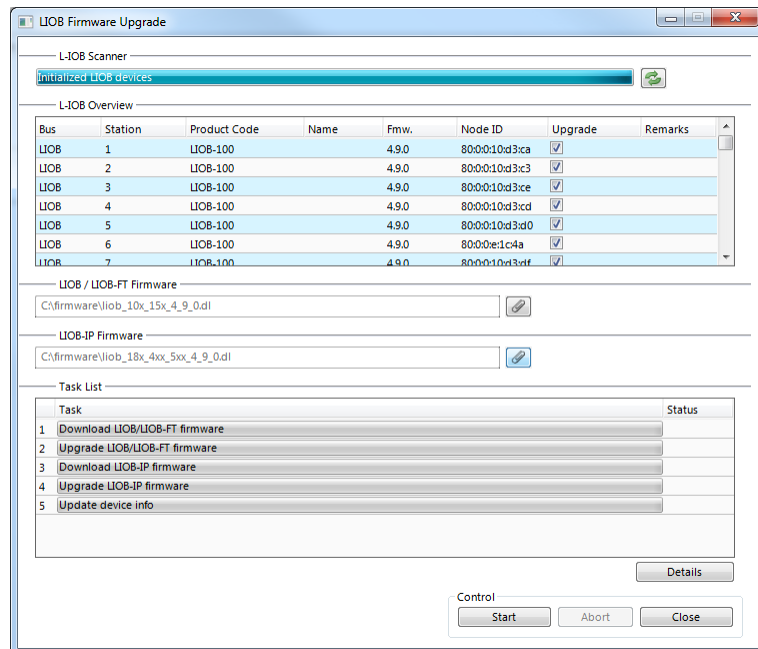

Figure 74: L-IOB Firmware Update dialog of the Configurator
3. This opens the Firmware Upgrade dialog as shown in Figure 74 and starts the detection of all connected L-IOB devices. Using the **Upgrade** checkbox in the **L-IOB Overview** list, it is possible to choose which devices shall be upgraded.
3. This opens a Firmware Update dialog similar to Figure 74. Click on the  button and select the L-IOB firmware image. Observe that LIOB-45x/55x devices need a different firmware than the other models.